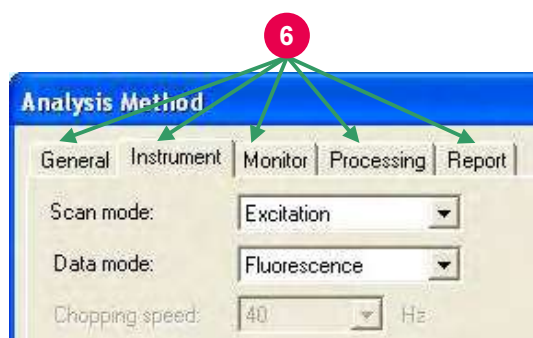

Fig. 1-30 Tab
- Click a tab for changing display. Each tab contains setting items. The display shown in Fig. 1-30 is expressed as “Instrument tab.”